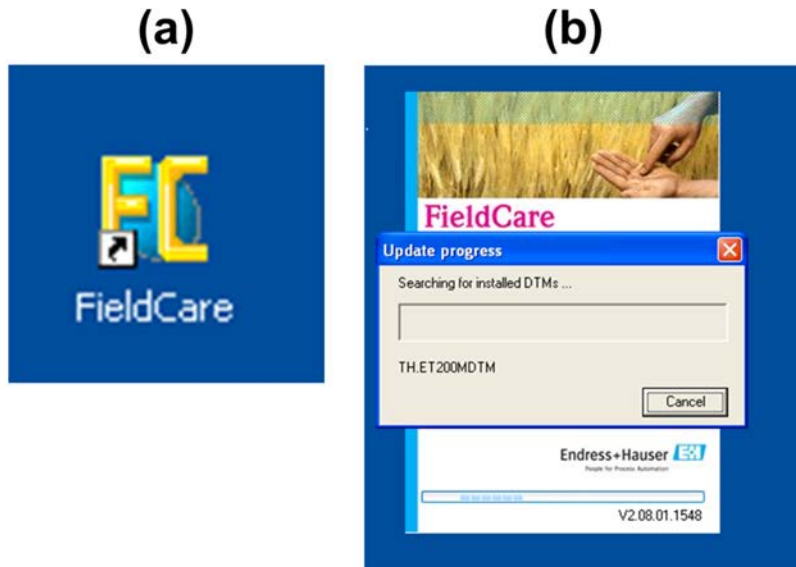

Figure 2-2. Start the FC software.
3. Confirm that the sensor is powered on and connected to the computer via RS232. Then, run the FC tool software by selecting the desktop icon shown in figure 2-2 (a) (icon should be created on the computer desktop automatically after the software has been installed).
4. The FC startup graphic will appear, along with a notification that the software is searching for installed DTMs [fig. 2-2 (b)]. Allow this process to complete; do not click **Cancel**!